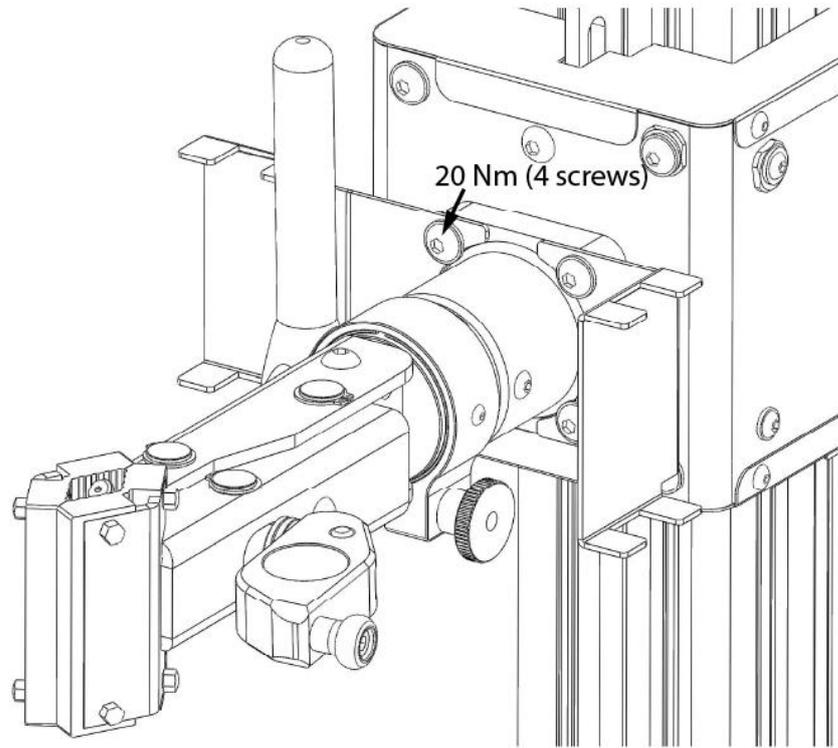

Figure 2: Remote holder mounting position
3. Unpack the main box and locate the clamp assembly (separate box). It includes two remote holders that are to be mounted on both sides of the clamp (see **figure 2**). Place the remote holders onto the clamp holder and mount the assembly to the carriage of the stand using the four included M8 screws and washers (**hardware bag 1**) and a 5 mm hex wrench. Tighten the screws to 20 Nm.